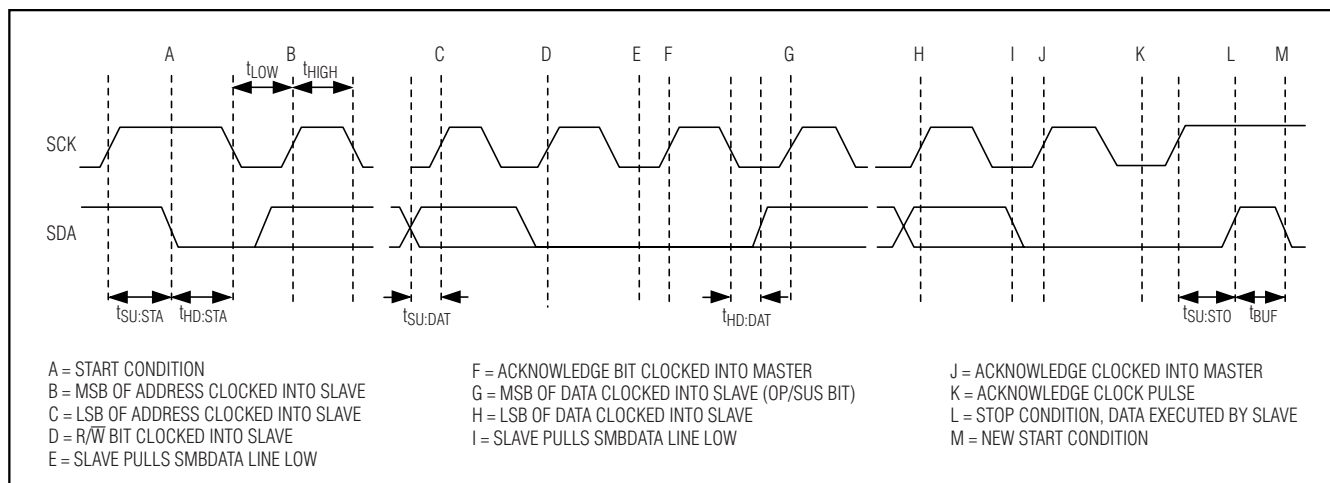

Figure 2. I²C Timing Diagram
An I²C 2-wire serial interface is provided on the MAX1707 to control LED brightness, flash, temperature deration, and RGB ramp rate. The serial interface consists of a serial data line (SDA) and a serial clock line (SCK). Standard I²C write-byte commands are used. Figure 2 shows a timing diagram for the I²C protocol. The MAX1707 is a slave-only device, relying upon a master to generate a clock signal. The master (typically a microprocessor) initiates data transfer on the bus and
generates SCK to permit data transfer. A master device communicates to the MAX1707 by transmitting the proper 8-bit address (0x9A) followed by the 8-bit control byte. Each 8-bit control byte consists of a 3-bit command code and 5 bits of data (see Table 1). Each transmit sequence is framed by a START (A) condition and a STOP (L) condition (see Figure 2). Each word transmitted over the bus is 8 bits long and is always followed by an acknowledge clock pulse.